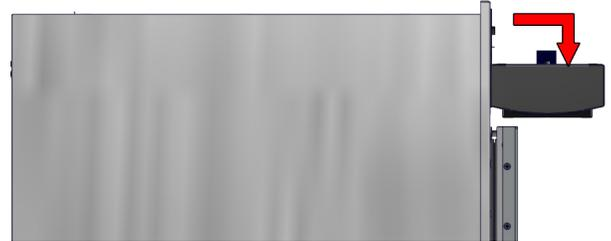
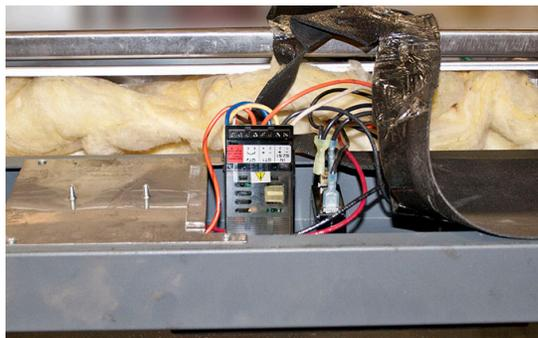

Fig. 3: Flip header down
Fig. 4: Header flipped down - controller exposed
5. The header can then be flipped down to reveal the old controller (Fig. 3 - Fig. 4).